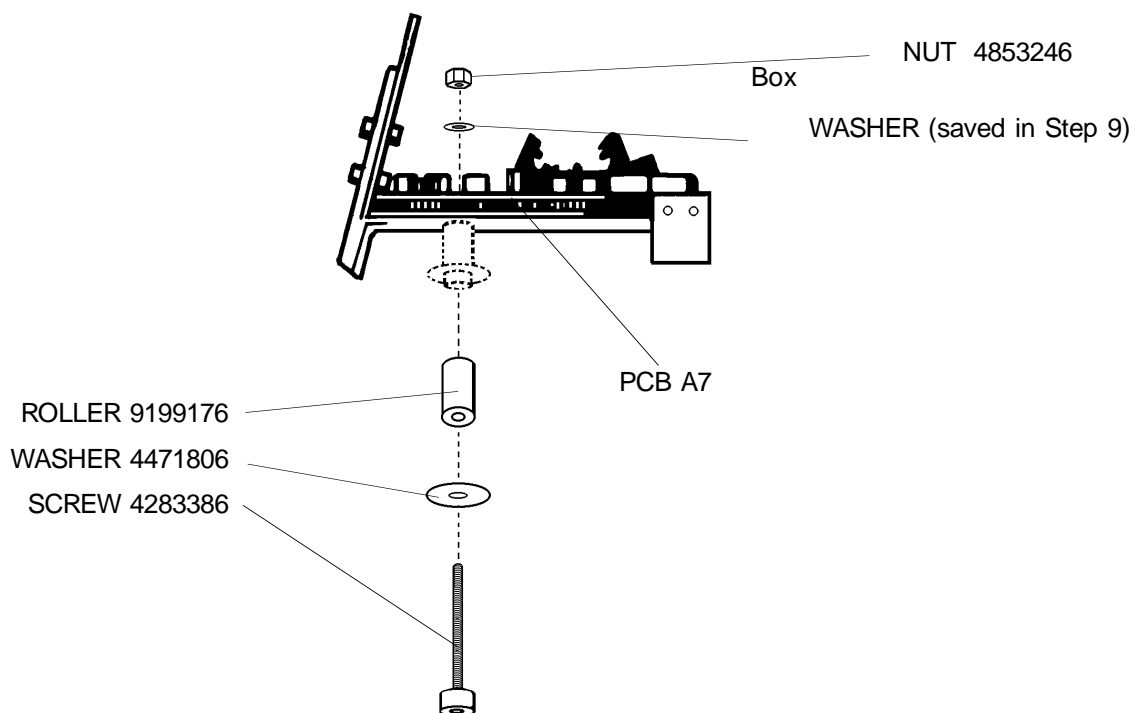

figure 6
**10.** Install parts shown in figure 6.